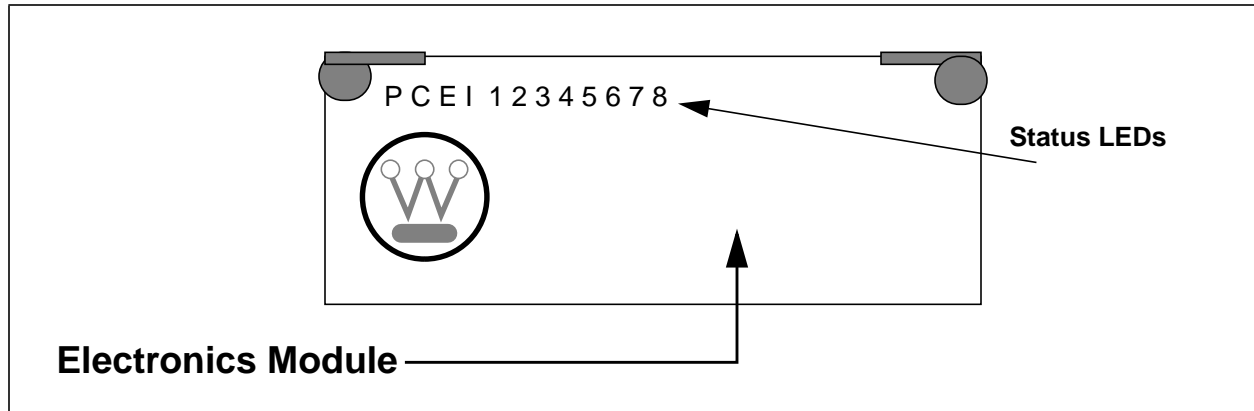

Figure 3-1. Link Controller Module LED Positions (Top View)
7. The LC module will perform a set of self-test diagnostics. Figure 3-1 illustrates the diagnostic LEDs on the LC Electronics module (refer to Table 2-9 for LED descriptions).